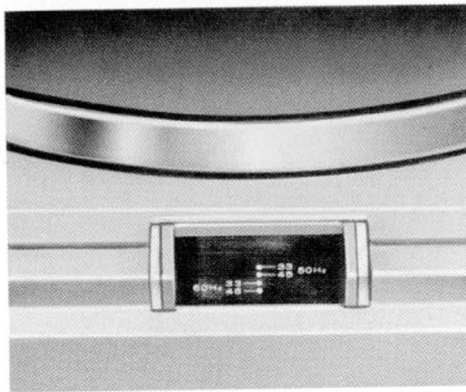

Fig. 9 (A)
Four separate sets of bars have been placed on the inner rim of the turntable platter to aid in the precise speed adjustment of either of the two speeds when operating from an AC power source of 50 Hz or 60 Hz. See Fig. 9 (B). These bars are illuminated in the area shown in Fig. 9 (A). Fig. 9 (C) shows the action of the speed adjustment control. To check and adjust the speed, set the turntable in motion (preferably during the actual playing of a record), and view the appropriate set of bars for the speed and power source being used, as indicated in Fig. 9 (B). If the bars appear stationary, turntable speed is precisely correct. If the bars drift either to the left or right, the turntable speed is not correct and the speed control should be used to bring the bars into a stationary condition. The direction in which the speed controls should be turned to correct for fast or slow speed is indicated in Fig. 9 (C).